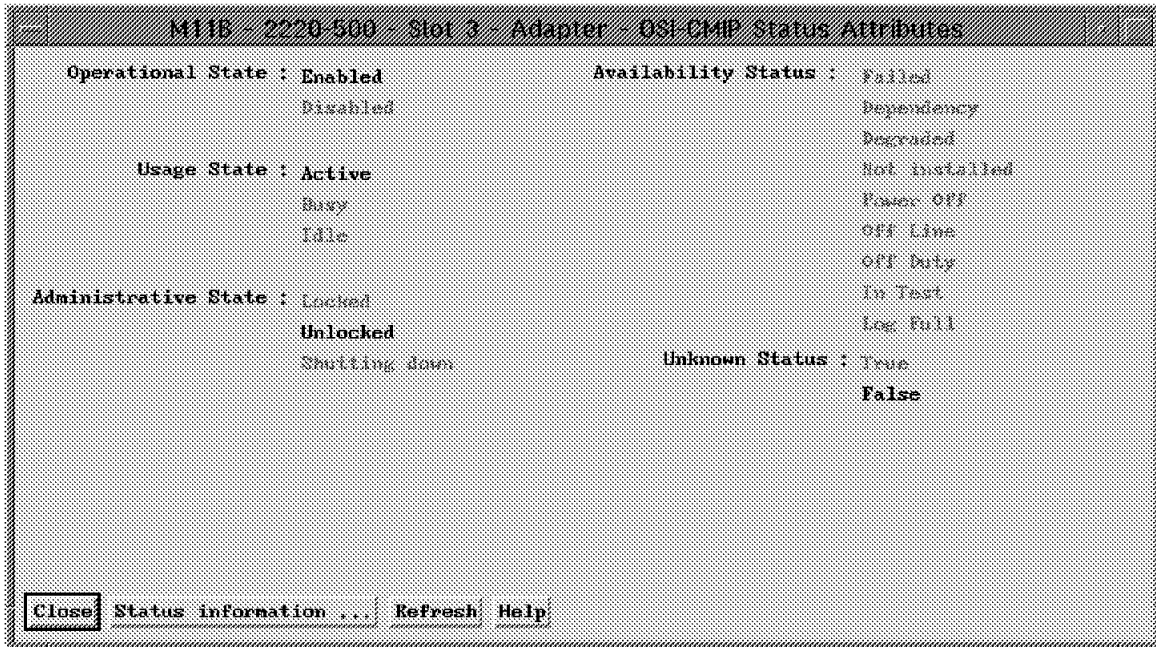

Figure 236. The CMIP Status Window
3. Click on **Nways Switch-> Status**. The CMIP status window is displayed (see Figure 236 on page 243).